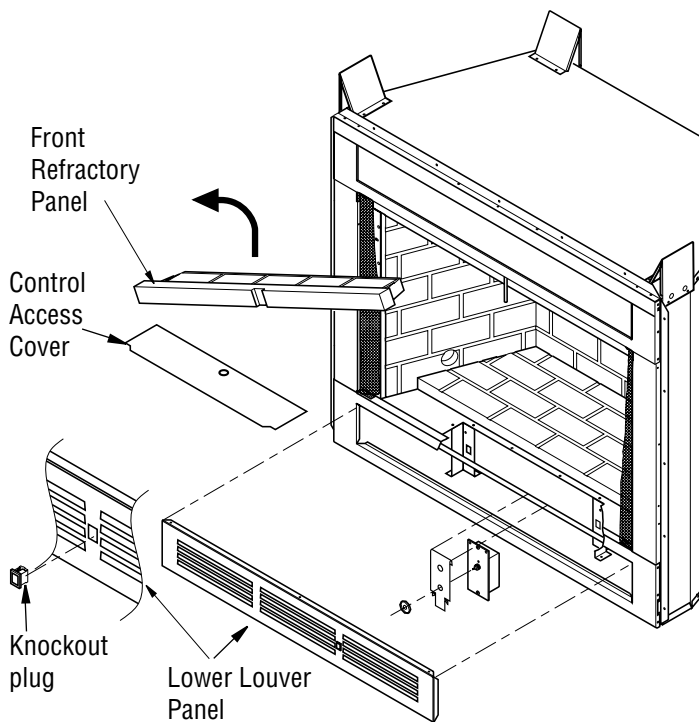

Figure 1: Accessing Blower Compartment (Controls Not Shown for Clarity) Mission B-vent Series
1. The BK blower can be installed in wood burning, B-vent and vent-free model fireplaces. Both the BK and BKT blowers can be installed in some direct-vent model fireplaces if listed as an accessory in the owners manual. Blowers are installed by accessing the blower compartment through the lower louver panel or, on some models, through the control access cover under the hearth refractory panel (see Figures 1 or 1a). The lower front louver panel can be removed easily, see removing louver panel, page 3 for instructions.
3. Remove knockout plug from louver panel by depressing top and bottom retaining clips (see figure 1 or 1a, page 2).
3. Remove knockout plug from louver panel by depressing top and bottom retaining clips (see Figures 1 or 1a, page 2).